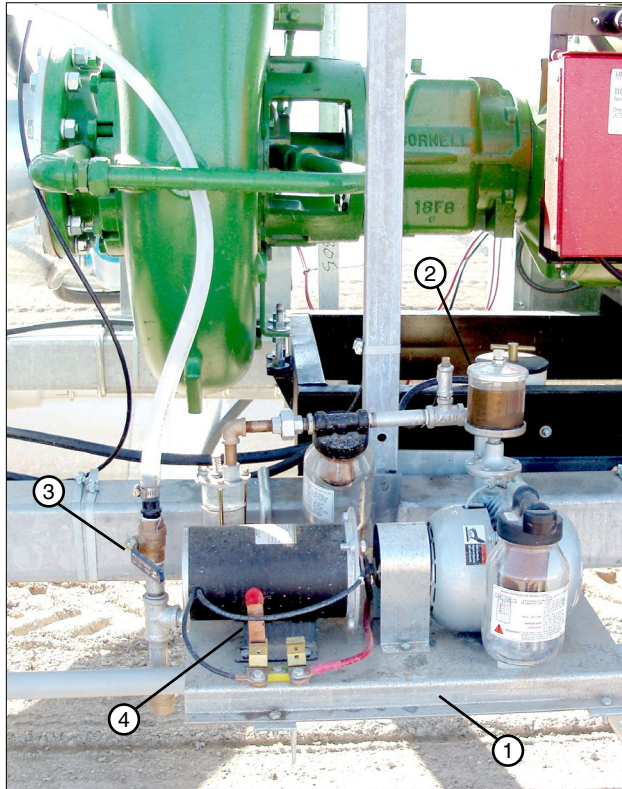

Figure 60-1 1. Electric Primer
The 12 VDC Electric primer is used for priming of pump installations with suction inlets in an Engine Generator Pump Application. See Figure 60-1.
1. Fill the automatic bearing oiler with lightweight oil, SAE 10W. See Figure 60-1.
3. Open the ball valve on the electric primer. See Figure 60-1.
5. Close the single throw switch to start the electric primer. See Figure 60-1.